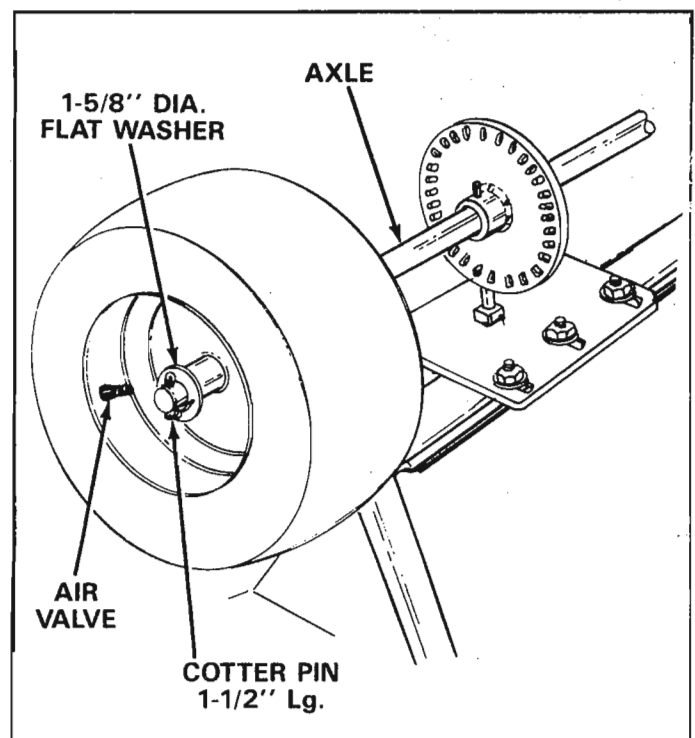

FIGURE 5
5. Place wheel assembly without hole through hub (air valve to the outside) onto axle end having the smallest hole and secure with 1-5/8" diameter flat washer and 1/8" x 1-5/8" cotter pin. See figure 5. Use extra 1-5/8" diameter flat washer if needed to take up play.
3. If for any reason the axle, gear and sprocket assembly is disassembled, be sure to mark position of parts as they are removed. Drive wheel and sprocket position determine relation direction of spreader plate. See figure 5. With reassembly of gear and sprocket use shim washers (see page 10 Ref. No. 21) as needed for minimum backlash. Add grease to gear and sprocket.